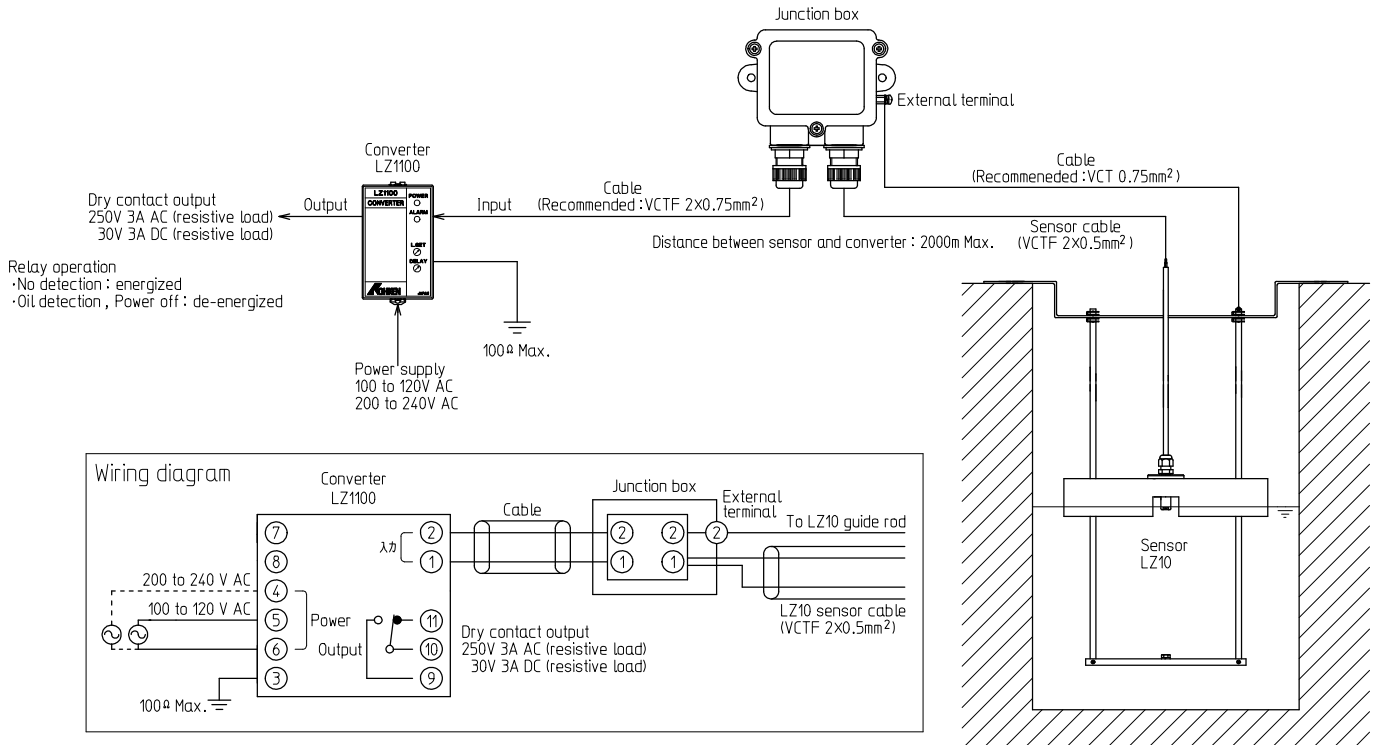

Fig.6-2: System and wiring diagrams
- (1) Connect cable to the terminals. Always use a screw driver to tighten the screws. Terminal screws are of M3.5. Use a cable rug of R1.25-3.5 or equivalent sizes. See Fig. 6-2 when wiring.